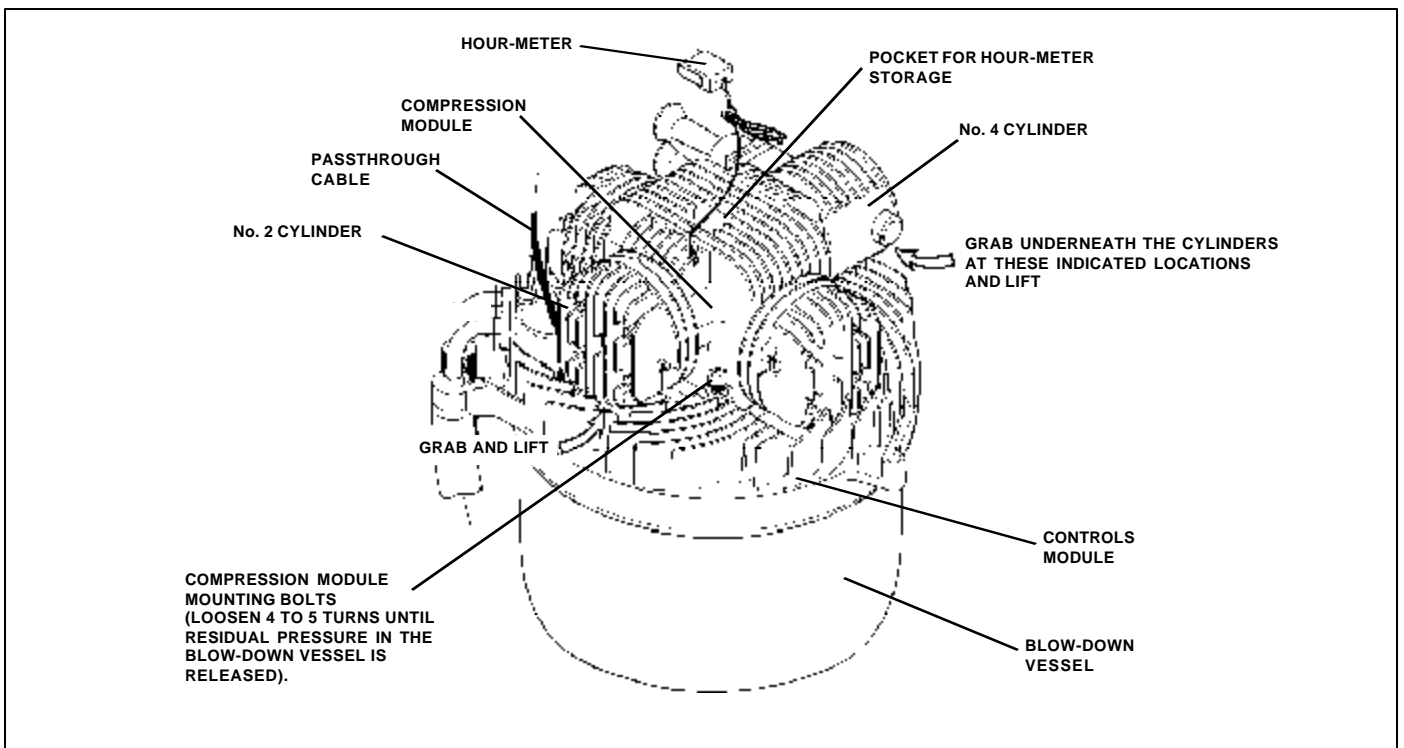

Figure 8 Hour-meter Storage Location and Blow-down Vessel Pressure Relief
- Store the *hour-meter* in the pocket provided in the top of the compressor housing and lay the cord in the cooling fins (See Figure 8).